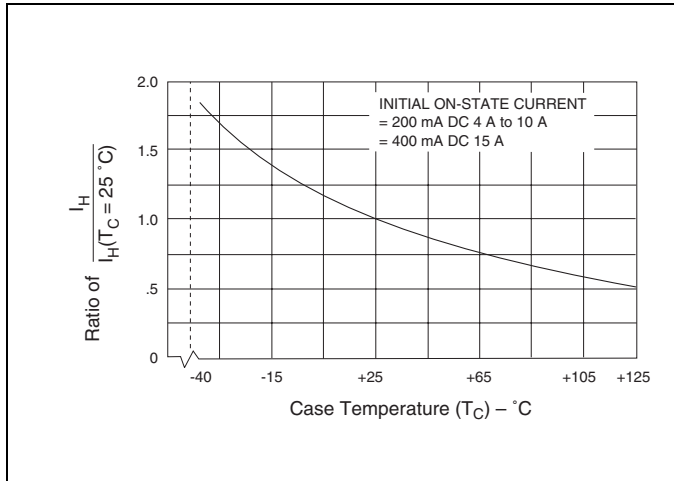

Figure E3.1 Normalized DC Holding Current versus Case Temperature
- (1) For either polarity of MT2 with reference to MT1
- (2) See Figure E3.1 for IH versus TC.